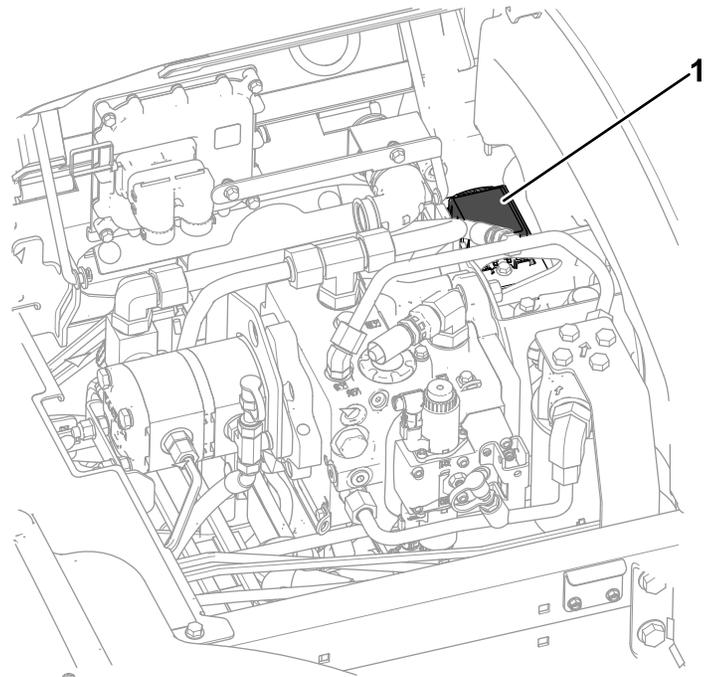

Figure 103
3. Replace the open fuse (Figure 103) with the same fuse type and amperage rating.